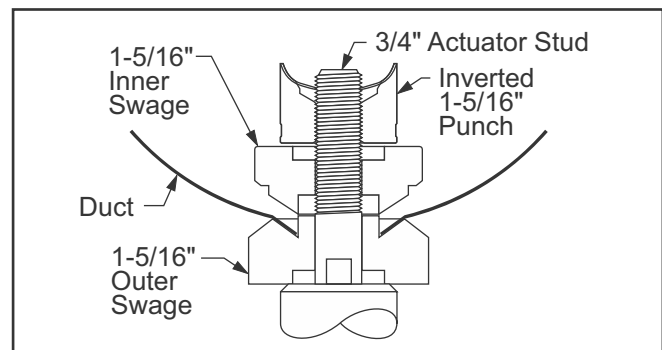

Fig. 36: 1-5/16" Swage Configuration
3. Swage Hole: Slide the 1-5/16" outer swage tool onto the 3/4" actuator stud. Insert the actuator stud and outer swage tool into the 1-5/16" hole. From inside the duct slide the matching inner swage tool onto the actuator stud. Invert and thread the 1-5/16" punch onto the actuator stud (cutting surfaces facing away from the inner swage tool) until the inner swage tool, the duct and the outer swage tool are snug. Operate the hydraulic actuator to compress the swage tools together to form the swage. Loosen and remove the swage tool. (Fig. 36)